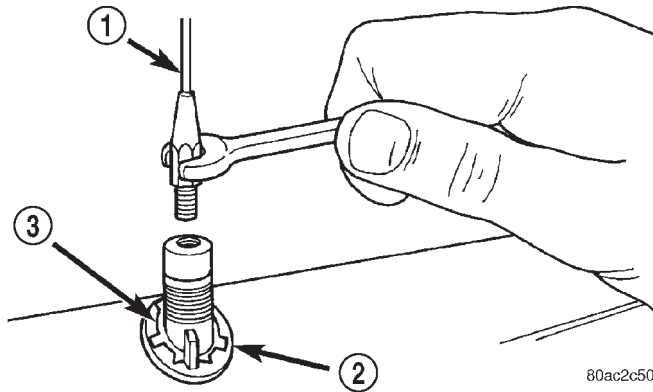

Fig. 13 Antenna Mast Remove/Install - Typical
(4) Disengage the antenna coaxial cable from the retainer clips on the lower instrument panel reinforcement and the heater-A/C housing.
(5) Disengage the antenna coaxial cable retainers at the right cowl side inner panel and inside the right front fender.
(6) Unscrew the antenna mast from the antenna body (Fig. 13).